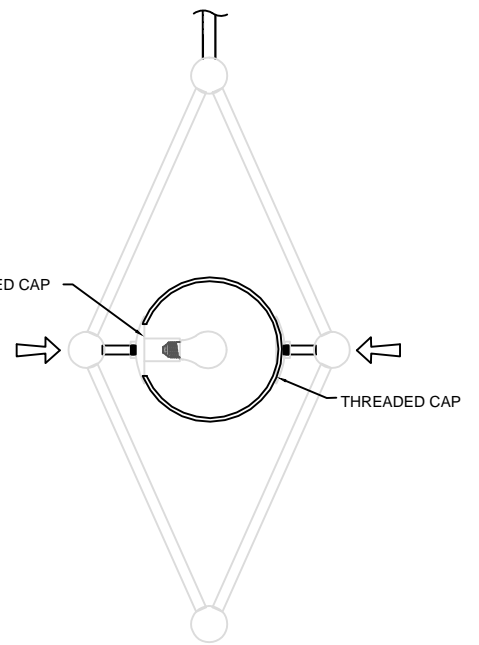

FIGURE-06
11. Tighten the threaded caps evenly on both side to the glass to keep it centered to the fixture. Do not over tighten to avoid breakage of glass diffuser. (See Figure -06)